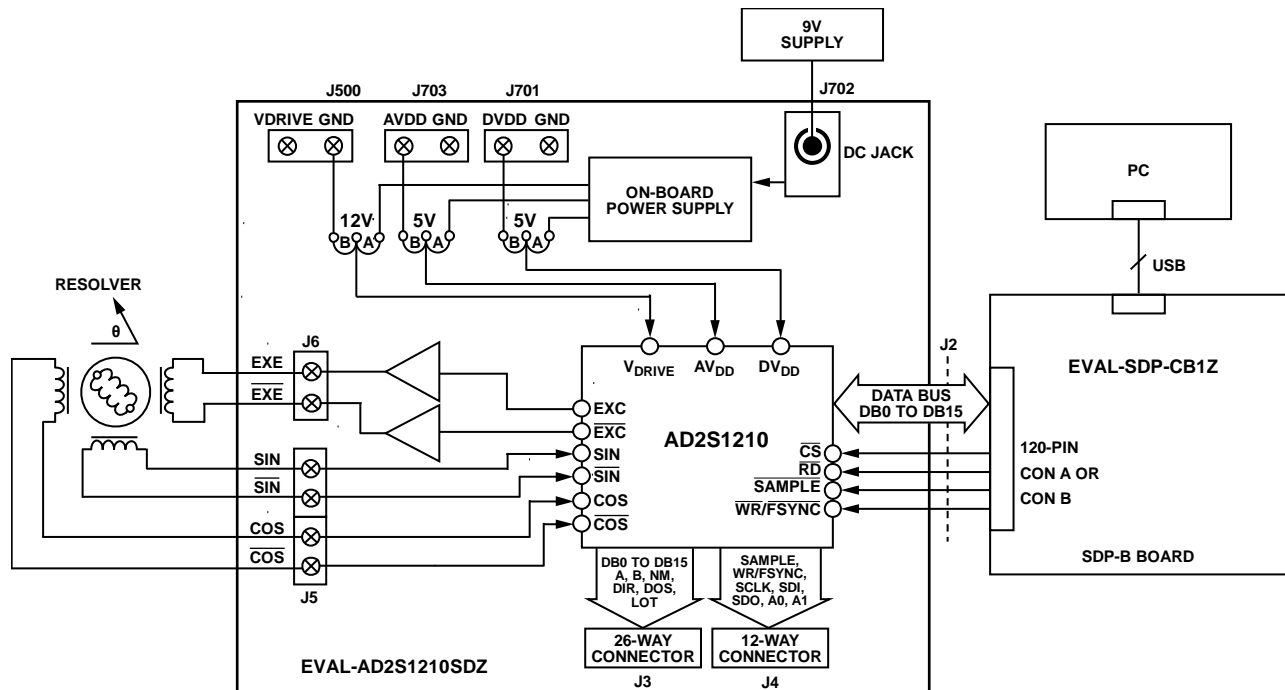

Figure 7. Functional Block Diagram of Test Setup
3. Connect the SDP board to the evaluation board, as shown in Figure 7.
7. Connect the EXC, EXC, SIN, SIN, COS, and COS wires of the resolver to Connector J5 and Connector J6, as shown in Figure 7.